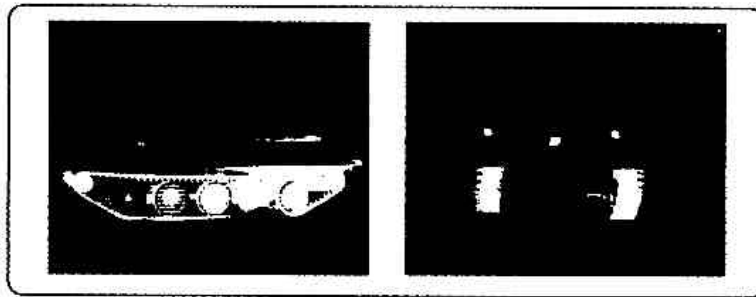

Figure A-2. M551 light tank.
b. **M551 Light Tank** (Figure A-2).